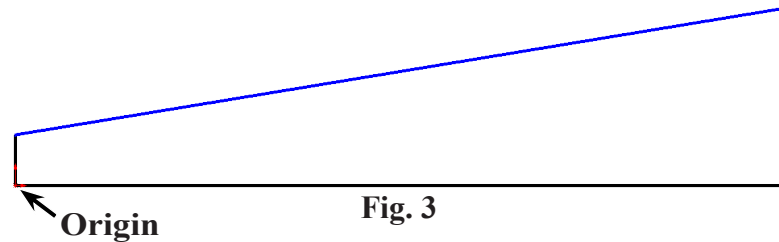

Fig. 3
Step 3. Starting at the Origin  sketch the lines in **Fig. 3**. Use the inferencing line, the dotted line that appears when you draw the lines to keep the side lines vertical and the bottom line horizontal. Do not add any extra lines. If you make a mistake, use Undo, **Ctrl-Z**.